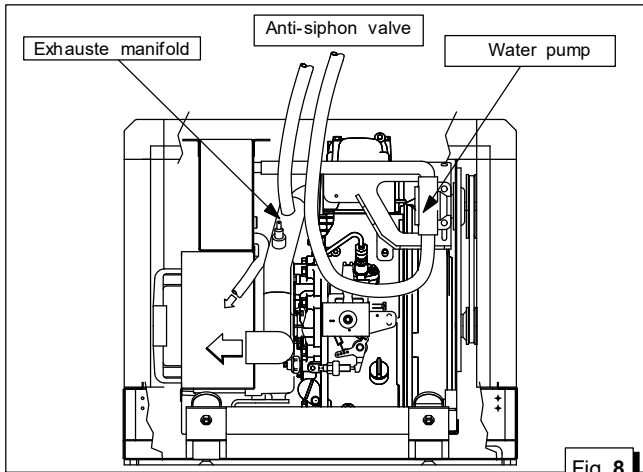

Fig. 8
**It must be installed when the generator is fitted with the drainage mixer on or beneath the water line, and should be positioned at least 50 cm above water level.**(see fig. 8/9)